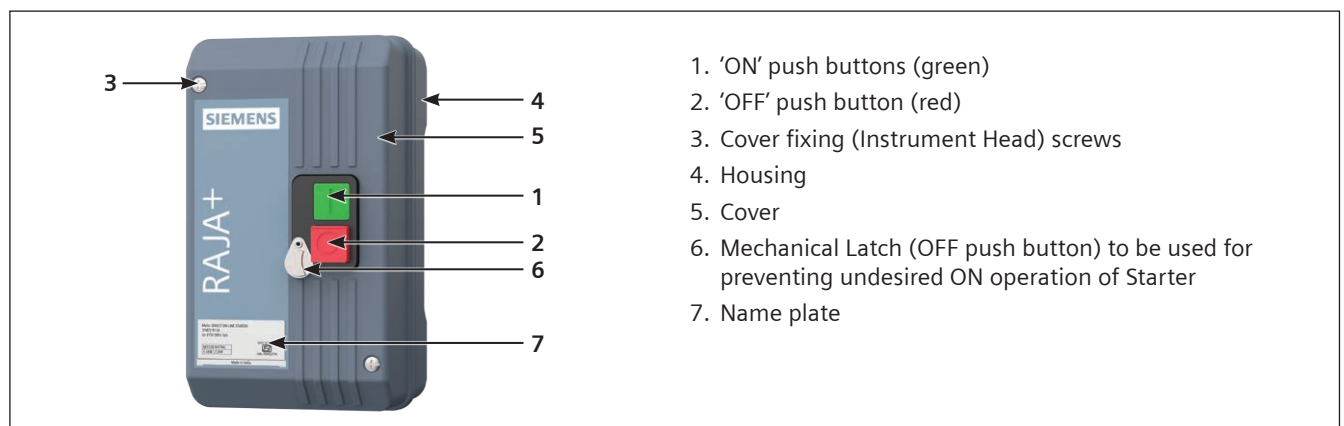

Fig. 1: DOL Starter
- Switch 'ON' the starter by pressing the green push button (marked 'I') (Fig. 1) on the starter cover.
- Switch 'OFF' the starter by pressing the red push button (marked 'O') (Fig. 1) on the starter cover.